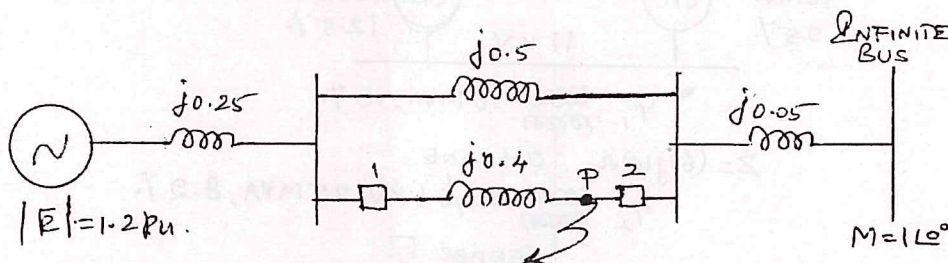

Fig. 15(b)
- (b) Given the system of Fig. 15(b) shown below where a three phase fault is applied at a point P as shown. Examine the critical clearing angle for clearing the fault with simultaneous opening of the breakers 1 and 2. The reactance values of various components are indicated in the diagram. The generator is delivering 1.0 p.u. power at the instant preceding the fault. The fault occurs at point P.